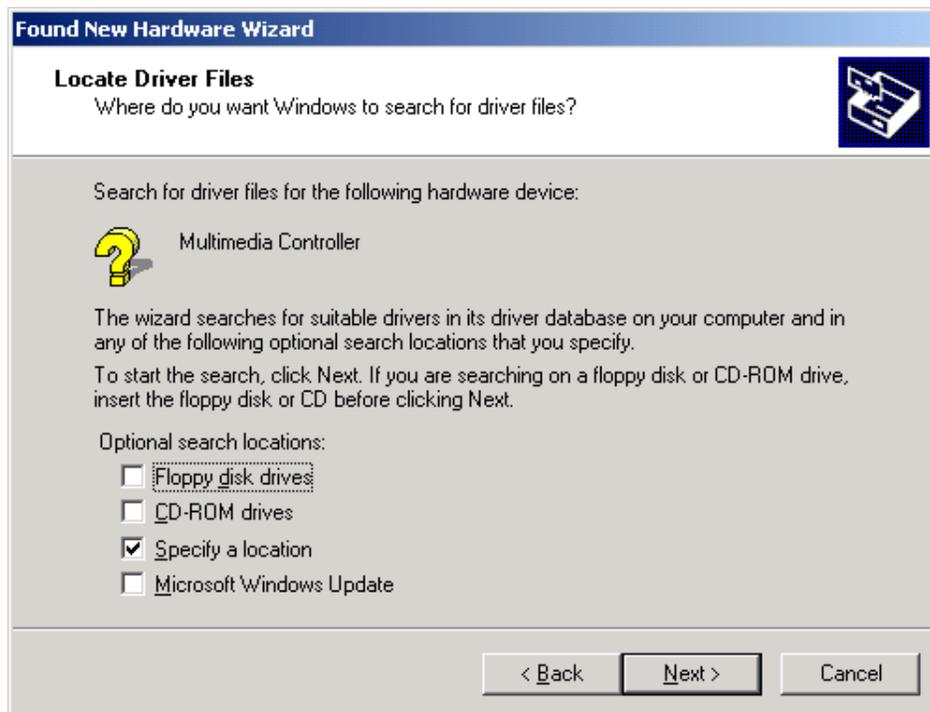

Figure 2-9: Tell the wizard you will specify where to look for the driver.
3. The wizard will prompt you for where to search, as shown in figure 2-9. **Specify a location** and click **Next** to continue.